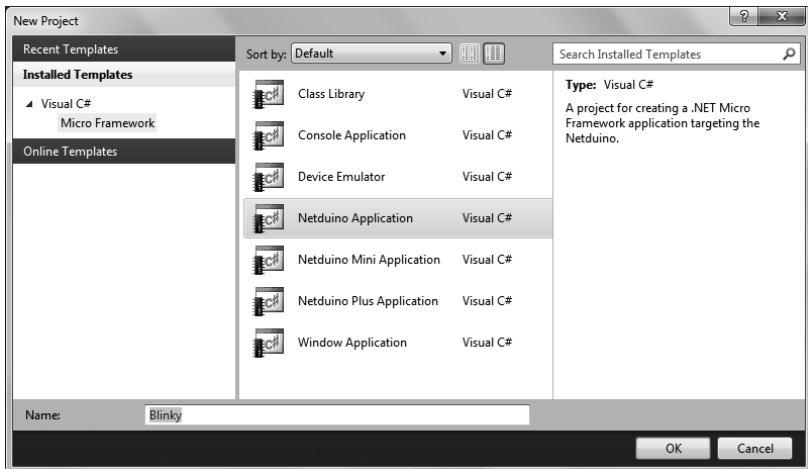

Figure 3-1. Create a new project
2. The New Project window should now pop up. Visual Studio displays a set of installed templates. We want to pick Visual C#→Micro Framework from the list on the left. Then pick Netduino Application from the list on the right. Give your project a name such as Blinky (as shown in Figure 3-1), and click OK.